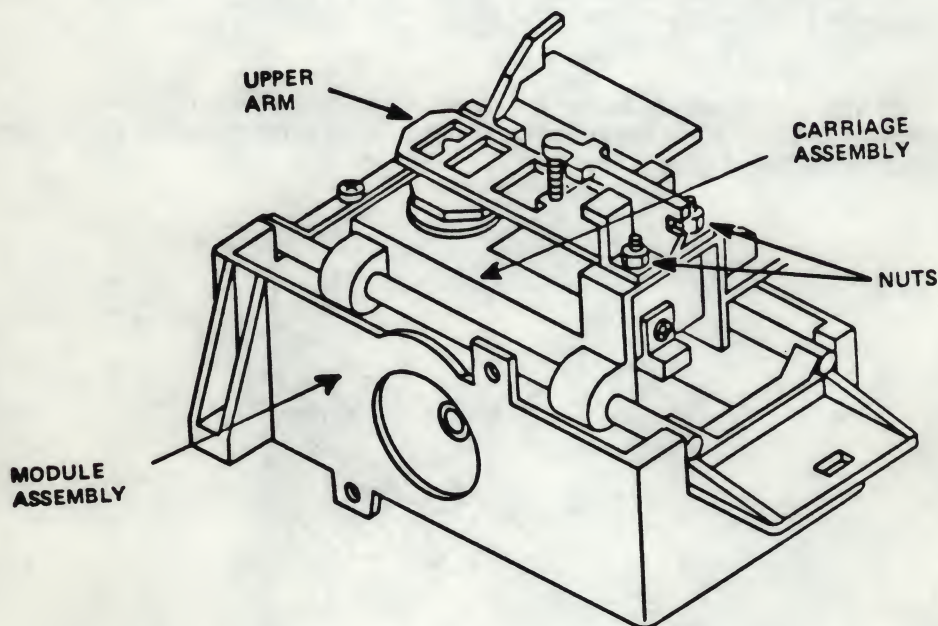

Figure 2-10
2.4.2.1 Turn the two (2) nuts that attach the upper arm to the carriage assembly (see Figure 2-10) counter-clockwise one-quarter (1/4) turn with a 3/16" nut driver.